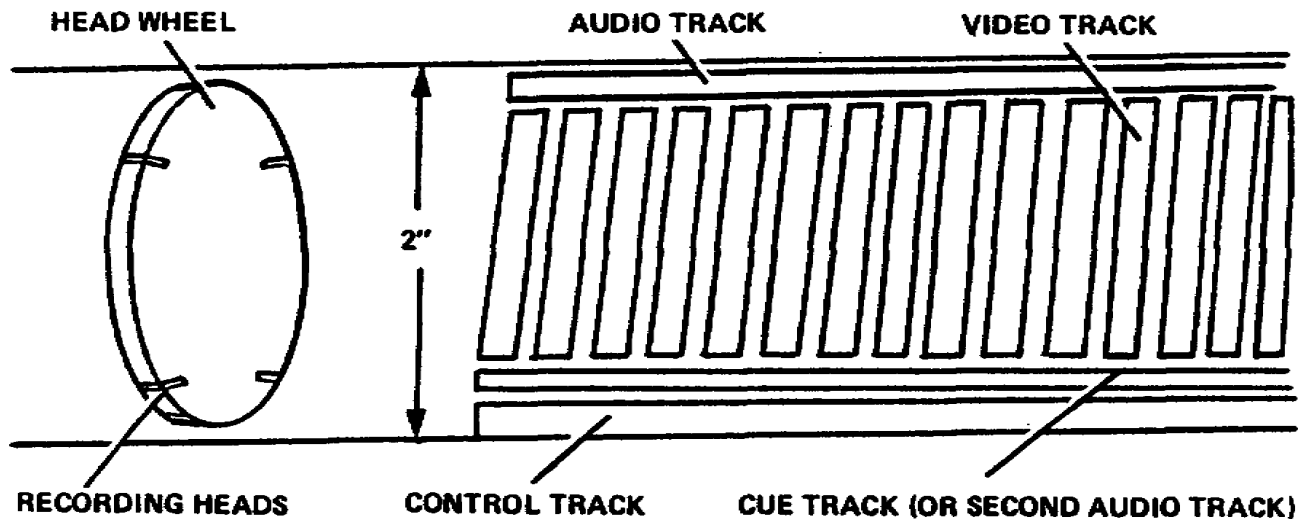
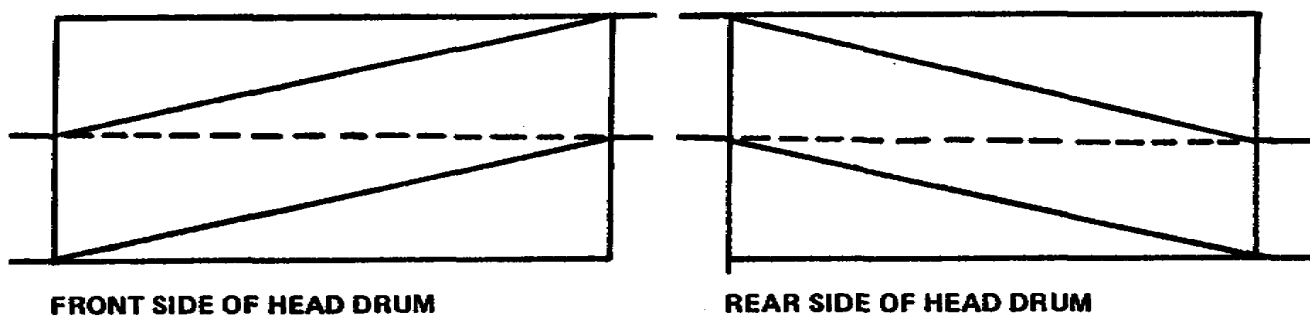

Figure 1-1. Quad-head recording system
Figure 1-3. Helical tape wrapping system
h. The head wheel which holds the heads was generally 2 inches in diameter and rotated vertically 240 revolutions per second. Each head would record 16.4 lines of video information on each video track. Since there are 525 lines to a frame, the head wheel had to lay about 32 video tracks on the video tape to get one frame. This quad-head recording system was the first type of recorder to be used commercially. But because of their size, expense, and the equipment required to operate them, the industry that did use them was the television broadcast station. They are what is termed reel-to-reel machines which used 2-inch video tape (fig 1-1).
b. The dotted line in the center of each line represents the gap through which the rotating heads would establish contact with the videotape as it passes by. By using a tape path like this past the rotating heads, it is possible to put more video information on a single track, a whole field or 262.5 lines instead of 16.4 lines per track, as the quad-heads VRs required. Because of the new design, only one or two heads were required on a rotating wheel instead of four. The new helical scan design produced slanted video tracks like the example in Figure 1-3, as opposed to almost perpendicular video tracks produced by quad-head VRs as was shown in Figure 1-1.